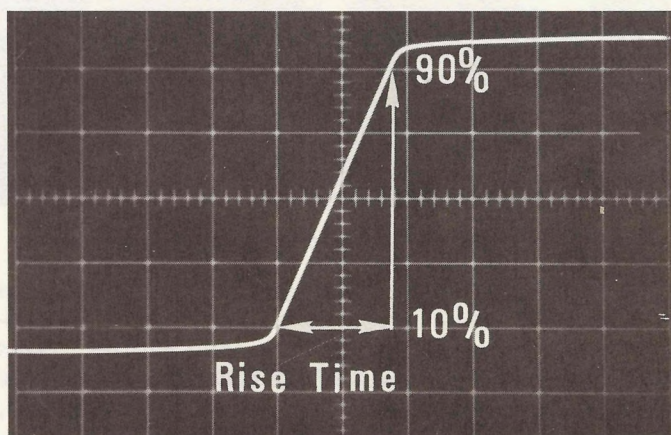

Fig. 19. Measuring rise time.
4. Pull the HORIZONTAL POSITION knob to activate the 5X expand, and adjust the HORIZONTAL POSITION control, so that the 10% point of the leading edge crosses at the intersection of the horizontal and vertical grid lines as shown in Fig. 19.
6. The rise time equals the distance measured in step 5, divided by 5 for the 5X expand, and multiplied by the setting of the TIME BASE - FREQUENCY switch. In Fig. 19 the distance is 1.8 divisions, and the setting of the TIME BASE - FREQUENCY switch is 20uSec/DIV.